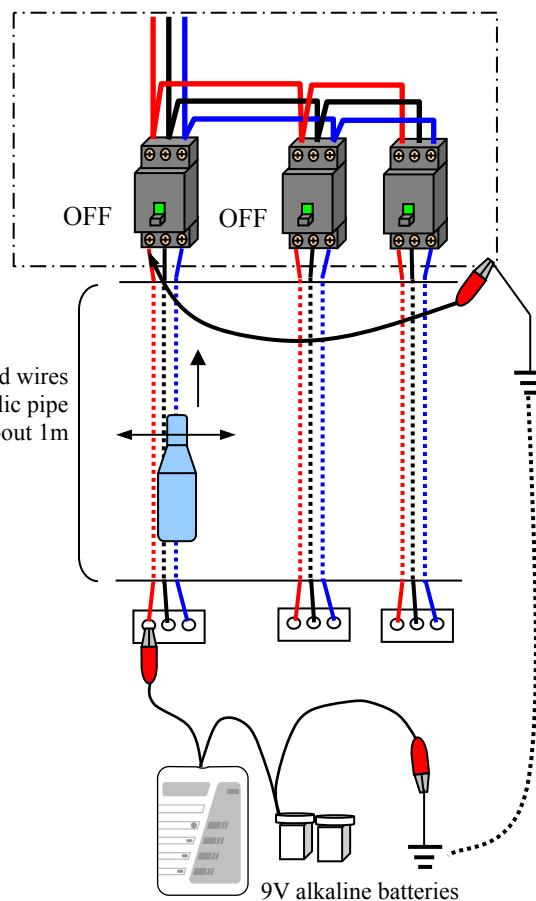

Figure 19
- When a breaker is detected at de-energized state, connect the transmitter, and then place the receiver to the connecting wire which is earthed as indicated in the Figure 19. If the receiver does not show any response, the connected breaker is not the applicable breaker, so connect the earth connection wire to other breaker. In such a case, make sure to connect the earth connection wire to the phase which is connected to the transmitter.